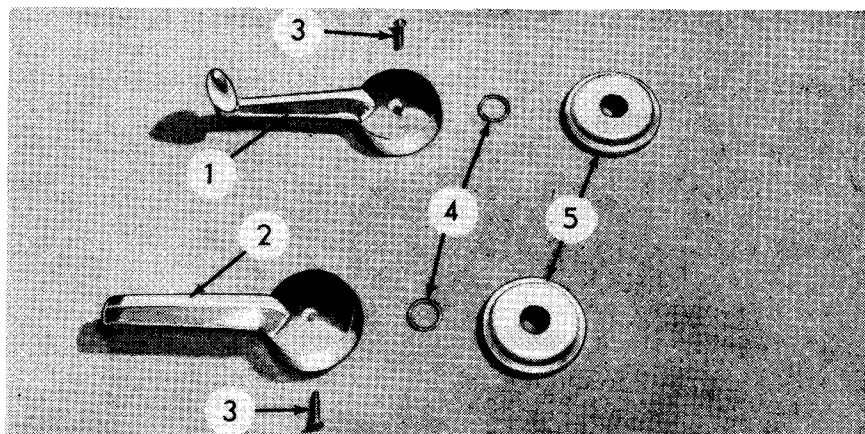

FIG. 9
10. Install the trim panel, arm rest, door lock remote control handle, and window regulator handle. If the handles and escutcheons have become separated, be sure to install one small washer (4, Fig. 9) between each handle and its escutcheon.
11. Install the trim panel, door lock remote control handle, window regulator handle and arm rest. If the handles and escutcheons have become separated, be sure to install one small washer (4, Fig. 9) between each handle and its escutcheon.